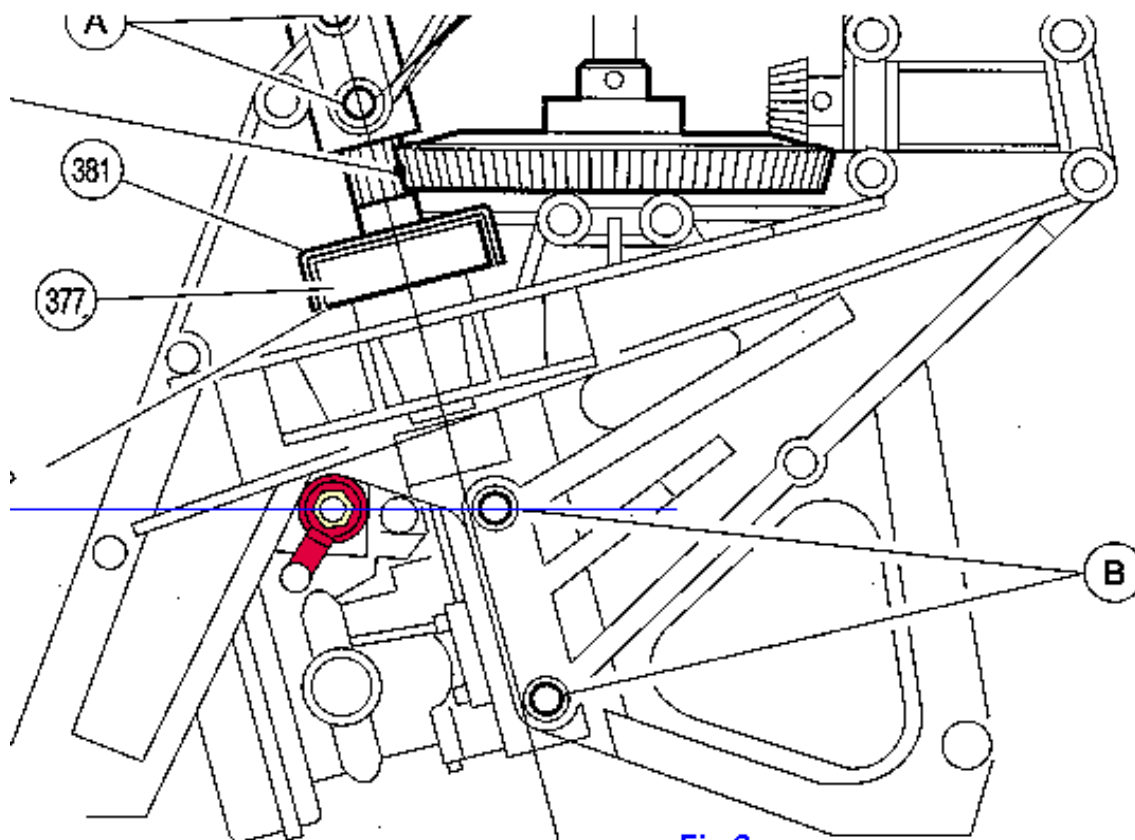

Fig 2
2. Now, looking at Fig 2, the carb lever is in the IDLE position. move the lever back and forth to its limits and make sure the arm DOES NOT go to, or past the imaginary blue line. If the lever can go to this point, its possible it can get stuck at FULL THROTTLE. If the lever is reaching this point it needs to be adjusted. Loosen the nut holding the lever on the carb slide. adjust the lever so that when the nut is tight, at full stop (idle) its ALMOST touches the frame.